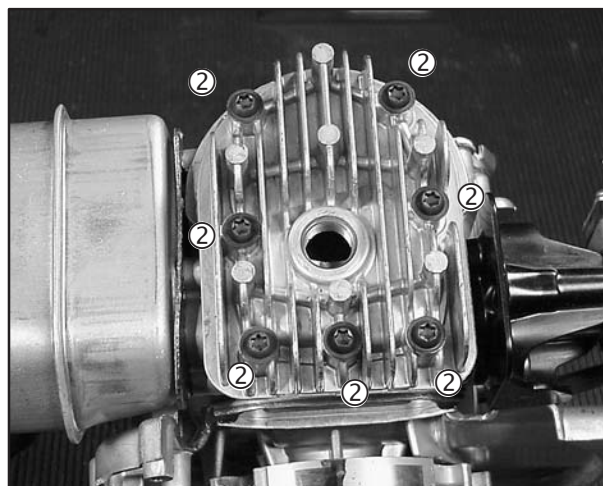

Fig. 28
2. Remove 7 cylinder head bolts (2), Fig. 28.